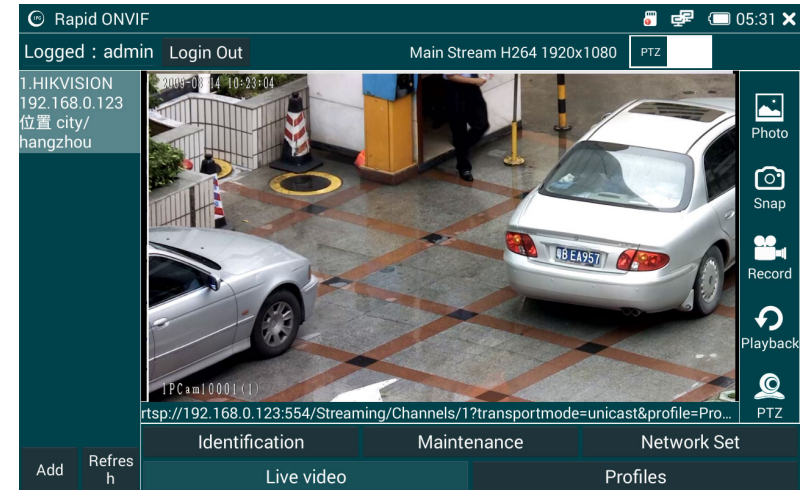

Figure 18
- 2) Select the camera to be operated , click on the left camera need to be operated, the camera image can be directly displayed as shown in Figure 18 :